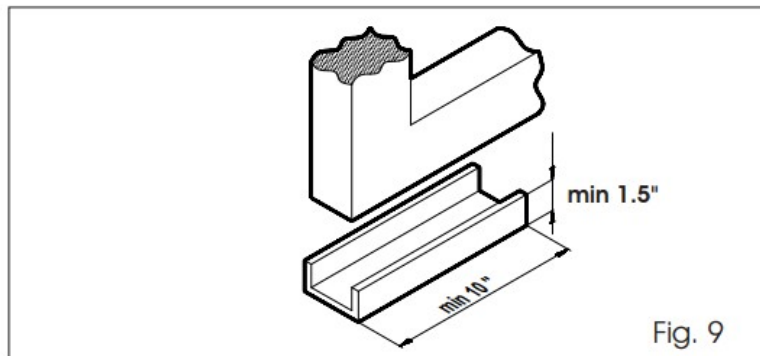

Fig. 9
- Use a “U” profile with dimensions indicated in Fig. 9.